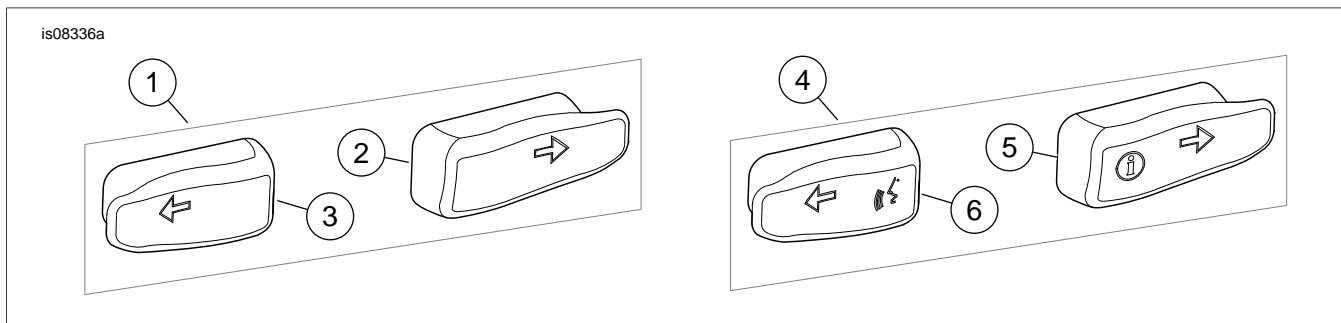

Figure 3. Turn Signal Switch Extension Cap Kits
See Figure 3 and Table 1.
2. See Figure 3. Select the correct turn signal switch extension cap from the kit.